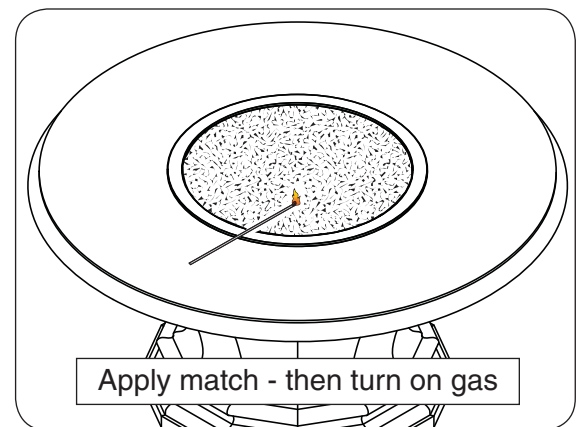

Fig. 23-1
3. Lay a lighted long-stem match on the surface of the decorative media near the burner (**do not hold the match in your hand**) or use a lighted long-necked butane lighter (Fig. 23-1).